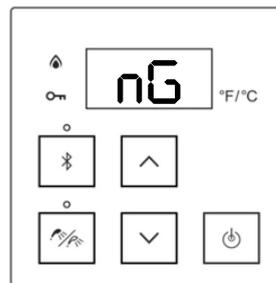

Figure 54:
2. Press the “Priority” button. The controller displays “nG” (natural gas) (Figure 54).